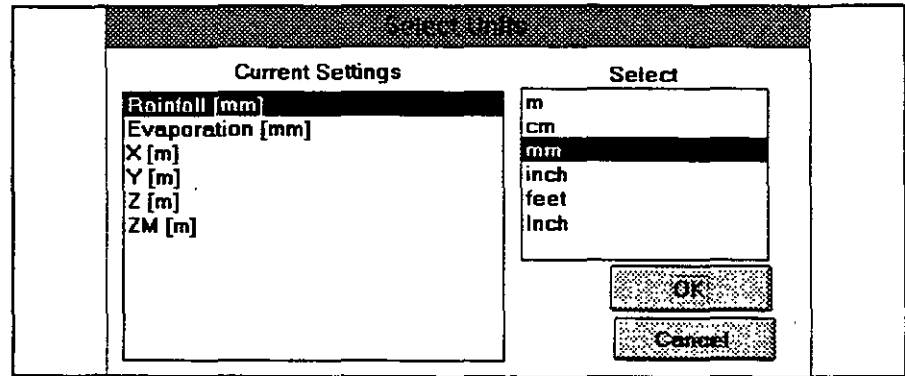

Figure 18-12
18.3.2. Units You may view or modify currently selected units. The dialogue box as displayed in Figure 18-12 will be opened.